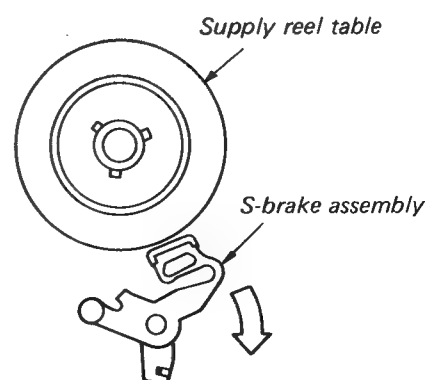

Fig. 1-3-34 S-brake assembly
Note: Move the S-brake assembly in the direction shown by the arrow before removing the reel table. Take care not to touch the pad surface of the S-brake. (Fig. 1-3-34)
- 6) After cleaning the reel shaft ⑧ with a cleaning kit, lubricate it with one or two drops of oil (lubrication kit).
- 7) When reinstalling the S-reel table assembly, temporarily move the S-brake assembly in the direction shown by the arrow, using a tweezers. (Fig. 1-3-34)
- 9) Mount the washer ⑥.
- 10) Mount the tension lever ③ and band brake assembly ⑤.